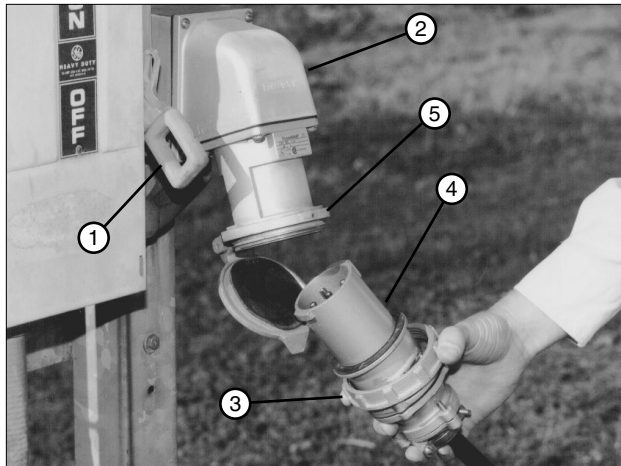

Figure 70-1 1. Disconnect Switch 2. Power Pedestal 3. Plug Cap Collar 4. Plug 5. Receptacle
- Turn the power pedestal disconnect switch to the OFF position. See figure 70-1.
- Remove plug cap from electric cord plug, and insert the electric cord plug into the power pedestal receptacle. See figure 70-1.